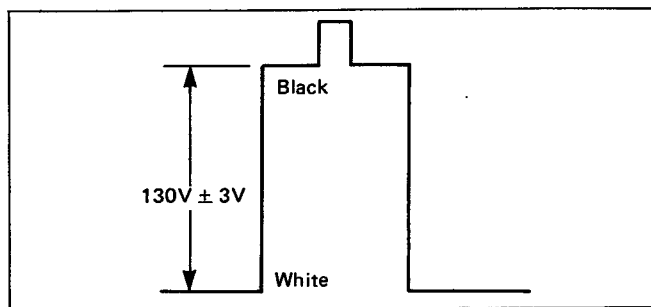

Fig. 26
- Adjust G-Drive control VR (R1801) to achieve  $130V \pm 3V$  as shown in Fig. 26.